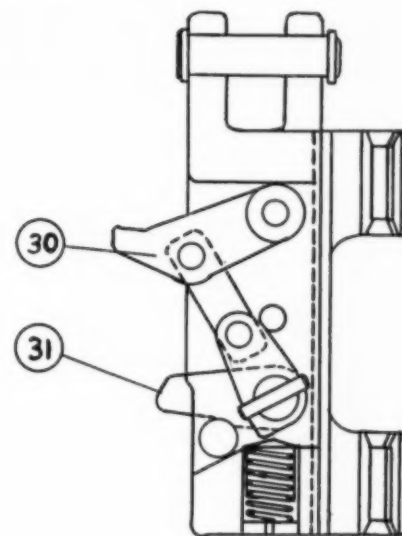

Figure 4. Latch gear mounted on mast holds piston in starting position.
The main parts of the machine are: the cylinder assembly comprising the work cylinder (1) guide cylinder (2) and retaining ring (3); the piston (4) and the ram head (5), both movably arranged in the cylinder assembly; the fuel injection pump (6) with the filter (7) and fuel tank (8); furthermore a necessary accessory is the latch gear (Fig. 4).
The piston (4) and ram head (5) are of forged steel and are fitted with cast iron piston rings. A center pin in the bottom of the ram head is driven into the center of the top of the pile to connect the machine securely with the pile. In the top of the piston an eyelet can be screwed for lifting or removing the piston. In the middle of the piston a groove (4a) of reduced diameter is machined for engagement with the lifting finger (30) of the latch gear (Fig. 4). The space between the bottom of the piston and the top of the ram head forms the combustion chamber; it is accessible for cleaning through a large hole which can be closed with the tight fitting screw cap (16).
An essential accessory for starting the machine is the latch gear, shown in detail in Fig. 4. Essentially it is a collapsible knuckle joint, slidably fitted to the mast. Through a slot provided in the wall of the guide cylinder the finger (30) protrudes into the cylinder and engages with the circular groove (4a) of the piston which latter then can be raised by means of the hand operated winch.